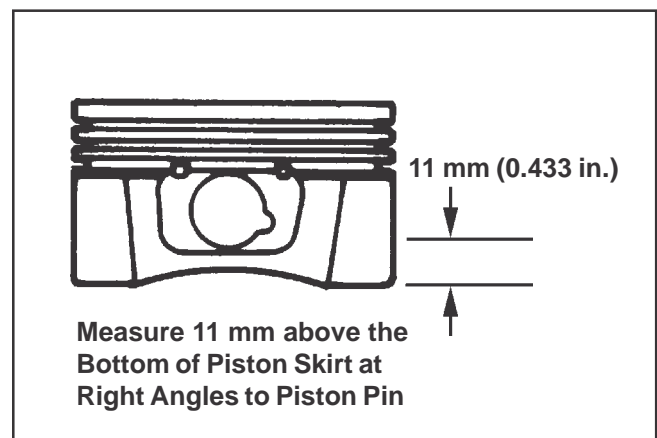

Figure 9-4. Measuring Piston Diameter.
1. Use a micrometer and measure the diameter of the piston **11 mm (0.433 in.)** above the bottom of the piston skirt and perpendicular to the piston pin. See Figure 9-4.